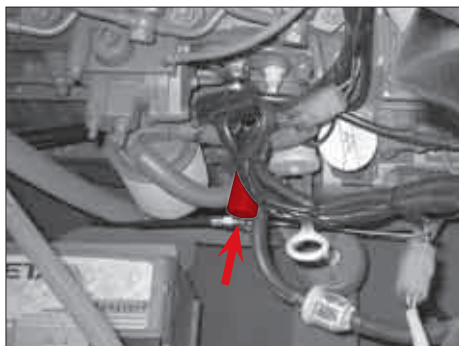

Fig. 81
3. Pump with the hand-feed pump (Fig. 81) until you feel resistance. Then pump 3 or 4 more times.